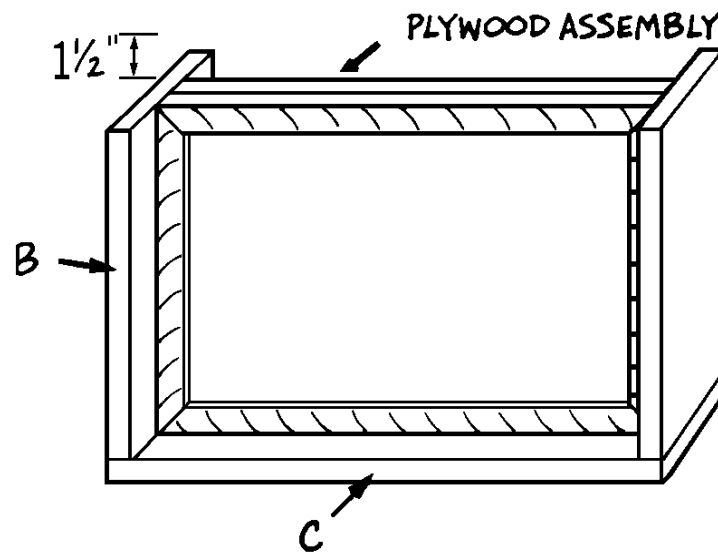

Figure 3
9. Fit the plywood assembly into the two sides (B) and top/bottom piece (C), as shown in *Figure 3*, adjusting the plywood so that it is inset 1-1/4" from the back edges of the sides and top/bottom piece.